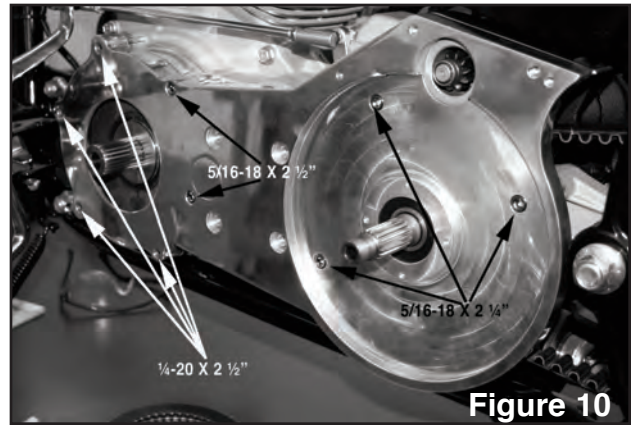

Figure 10
Now, using the supplied (4) 1/4-20 X 2 1/2" (motorplate to motorcase) & (2) 5/16-18 X 2 1/2" (motorplate to motorcase) & (3) 5/16-18 X 2 1/4" (motorplate to transmission) bolts, secure the motorplate to the transmission and motorcase making sure to use 2-3 drops of blue threadlocker on each bolt. Then torque the 1/4-20 SHCS to 98-102 in. lbs & 5/16-18 SHCS to 28-32 ft. lbs. (See figure 10 & 10a).